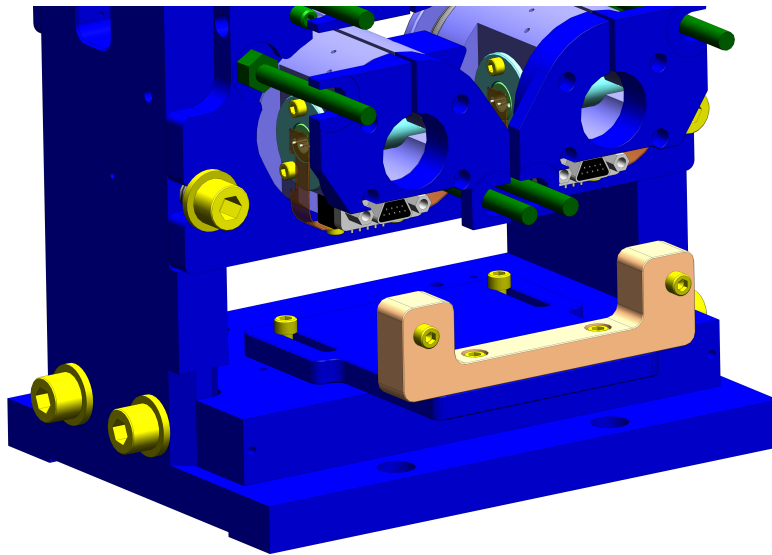

Figure 10. Mounting the DSUB Bracket.
Mount the DSUB Bracket to the D1101430 DSUB Bracket Holder on the narrow side using (2x) #40-40 x 0.3125. Then mount the DSUB Bracket Holder to the baseplate using (2x) #4-40 x 0.4375 SHCS and (2) #4 type B narrow flat washers. Use two threaded holes located at the 'back' on the baseplate and the slotted holes in the Bracket Holder, with the DSUB Bracket facing upwards, as shown in Figure 10.